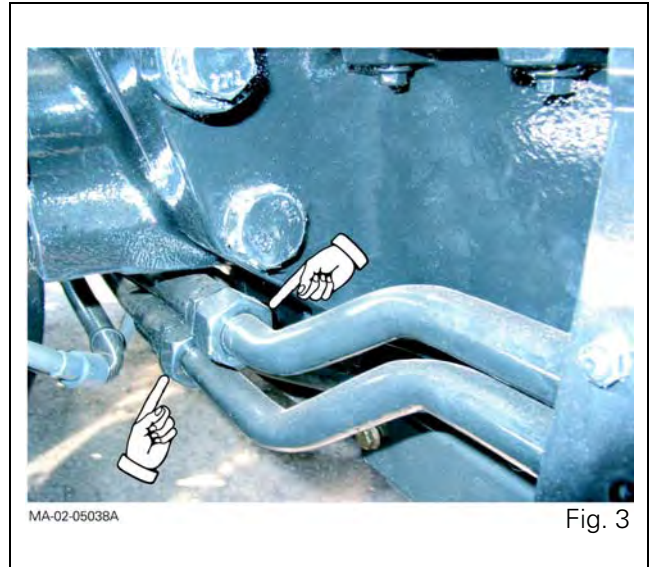

Fig. 3
- the lubricating hoses (running to and from the cooler) (Fig. 3).